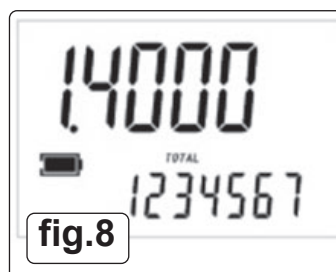

fig.8
- 5.2.5. To display correction factor and Total (fig.8)